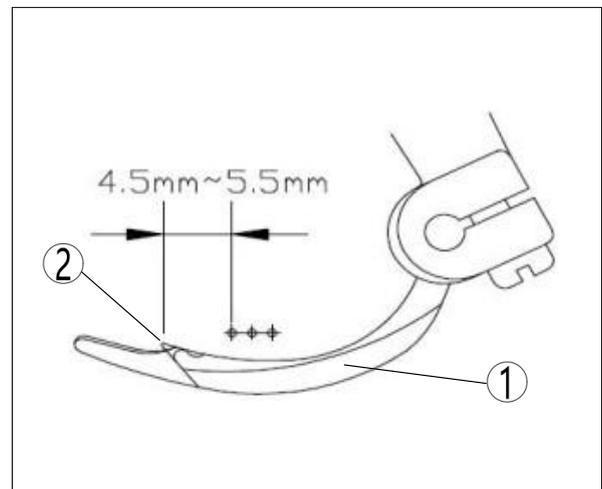

Figure 7-8
- (3) When the upper feed needle moves to the left dead point, adjust the distance from the tip of the upper feed fork② to the center of the left needle to 4.5–5.5mm, and tighten the fixing screw④. (Figure 7-8)